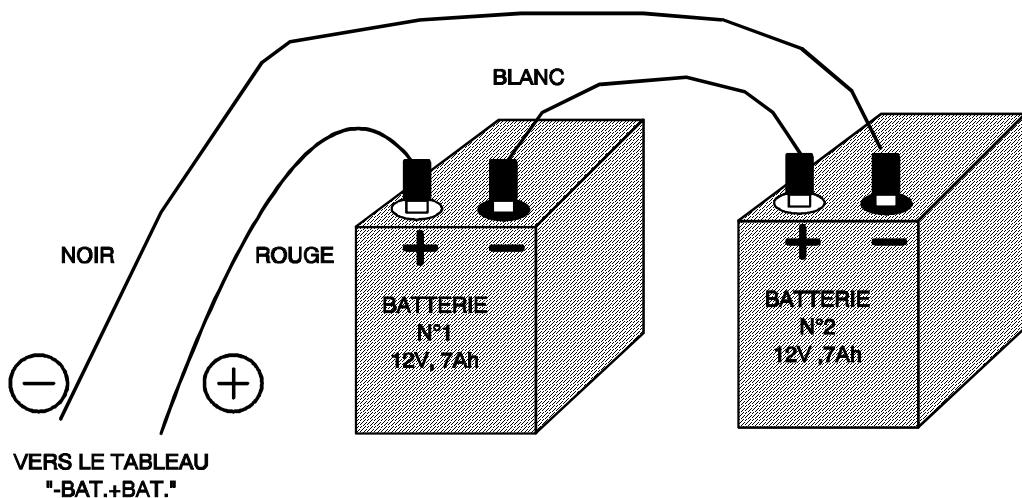

Figure 3 : raccordement des batteries
2.1 RACCORDEMENT DES BATTERIES (FIGURE 3)